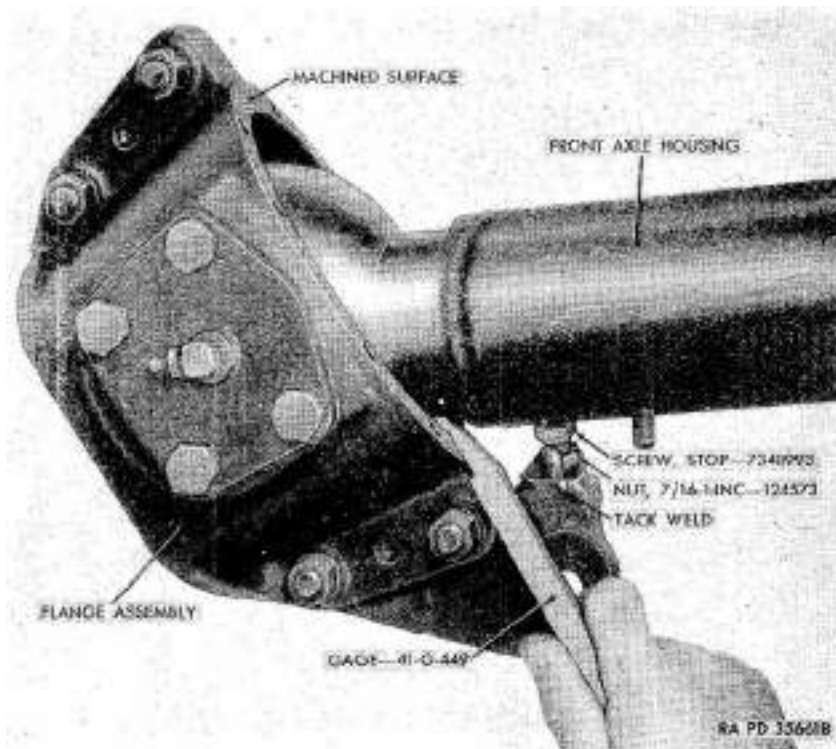

Figure 69. Checking turning radius.
g. Adjustment of Turning Radius (fig. 69) . Check the turning radius by placing gage 41—G-449 between the flange assembly and axle housing (flange oil seal assembly removed) . Turn flange until the gage restricts further movement. If adjustment is necessary, break the weld and install a new stop screw and 7/16-14NC nut. With gage in position, adjust the stop screw so that it bears against axle housing and tighten nut. Tack weld stop screw and nut to flange assembly.